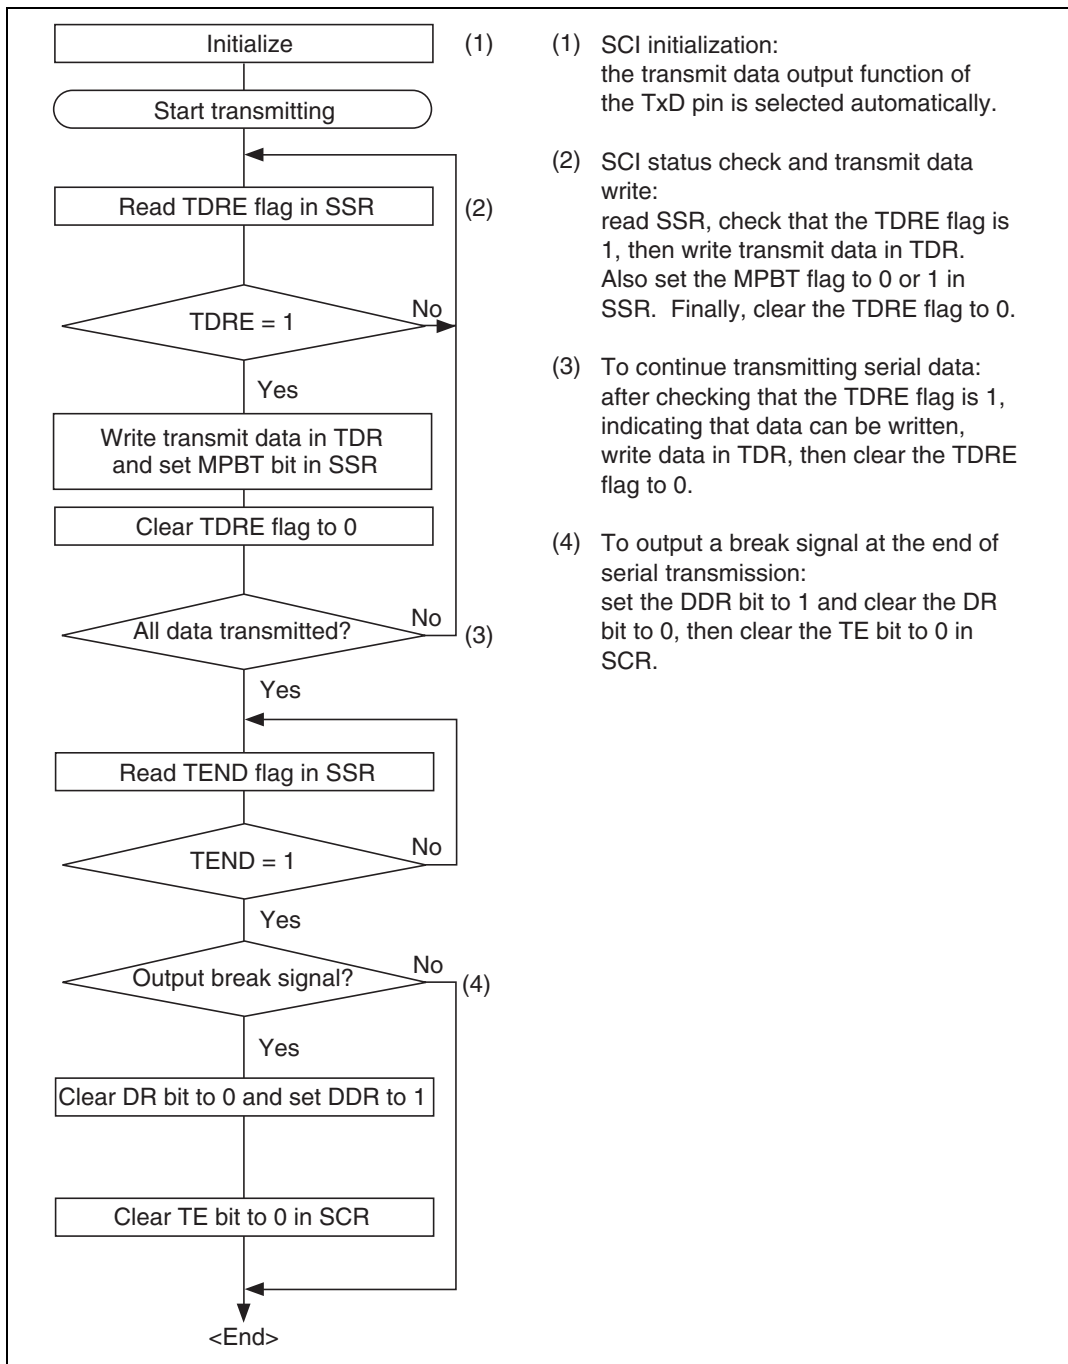

Figure 12.10 Sample Flowchart for Transmitting Multiprocessor Serial Data
- **Transmitting Multiprocessor Serial Data:** Figure 12.10 shows a sample flowchart for transmitting multiprocessor serial data and indicates the procedure to follow.